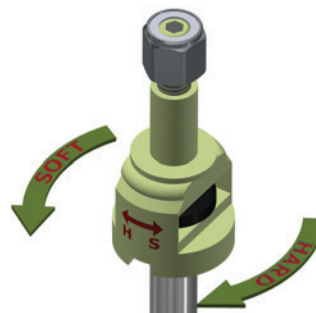

fig. E.1
1. The dampers in this kit have 30 settings, or “clicks,” of adjustable compression and rebound damping characteristics. Damping is changed through the damper rod using the supplied adjuster (Fig. E.1) or a 3mm hex key (not included).
2. Turn the adjuster clockwise (H) and the damping settings are hardened, reducing oscillations and body motion. Turn the adjuster counterclockwise (S) and the damping is softened.